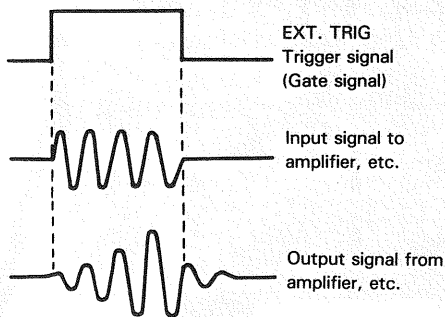

Fig. 8
ample, Fig. 8 shows that the sweep circuit is driven by the gate signal when the gate signal in the burst signal is applied to the EXT. TRIG INPUT jack. Shows the input/output signals, where the burst signal generated from the signal is applied to the instrument under test. Thus, accurate triggering can be achieved without regard to the input signal fed to the INPUT ⑥ or ⑫ jack so that no further triggering is required even when the input signal is varied.